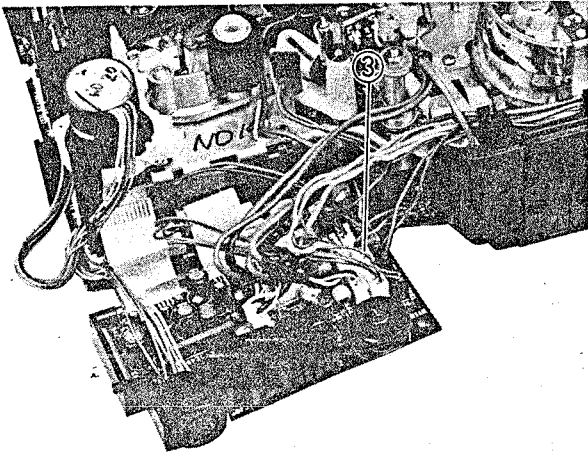

Fig. 2-74 Safety Tab Switch Removal
Safety Tab Switch Removal (Figs. 2-74, 2-75, 2-76)
3. Disconnect connector CN122. (See Fig. 2-74)